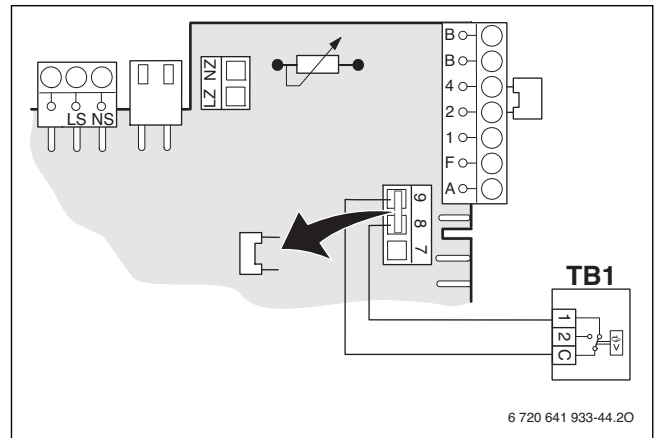

Fig. 49 Electrical wiring TB1
- ▶ Connect the leads labeled SWITCH CONTACT (yellow) to the TB1 temperature guard (→ Fig 49, page 47) on the Heatronic.